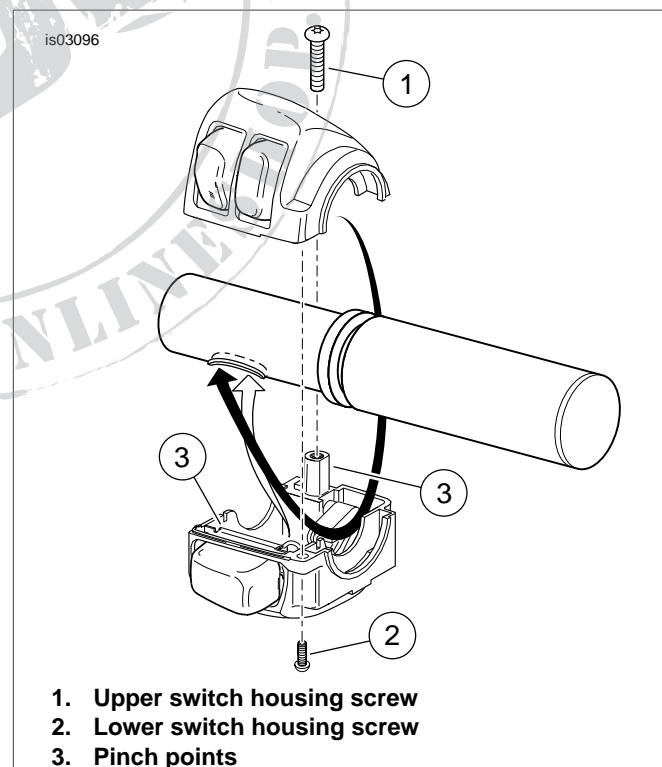

Figure 3. Switch-Housing Wire Routing (Right-Side Housing Shown)
8. See Figure 3. Route the switch wire bundle through the switch housing as shown. Gently feed the wire bundle into the oblong switch wire hole near the right-side end, and toward the center of the handlebar.